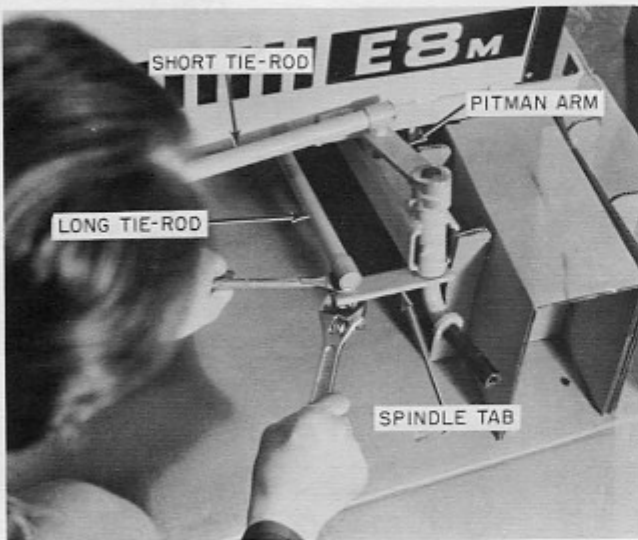

Figure 3
8. Install the short tie rod between the steering arm tab on the lower end of the steering assembly and the Pitman arm which is attached to the right-front-wheel spindle. Install so the threaded studs of the ball joints extend down through the arm tabs. Secure with lockwashers and nuts. (See Figure 3.)
9. Install the long tie rod so the threaded studs of the ball joints extend down through the spindle tabs. Secure with lockwashers and nuts. (See Figure 3.)